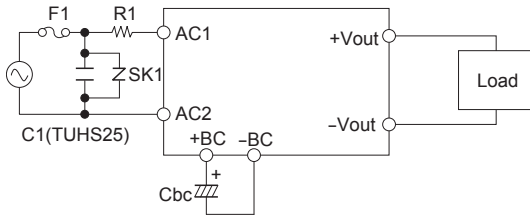

Fig.1.1(a) Connection for standard use (AC input or DC input)
■ To use TUHS series, connection shown in Fig.1.1 (a) or (b) and external components are required.